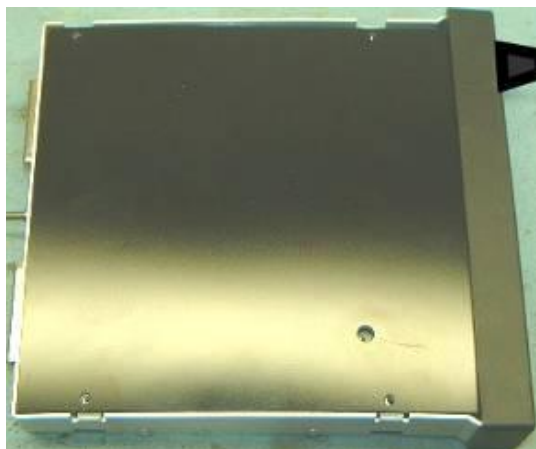

Figure 6 – Unswitched input 3 level adjustment (bottom cover removed)
- **Unswitched Input 3 level** (bottom cover removed, Figure 6) – adjustable from 50% to 200% of the input level.